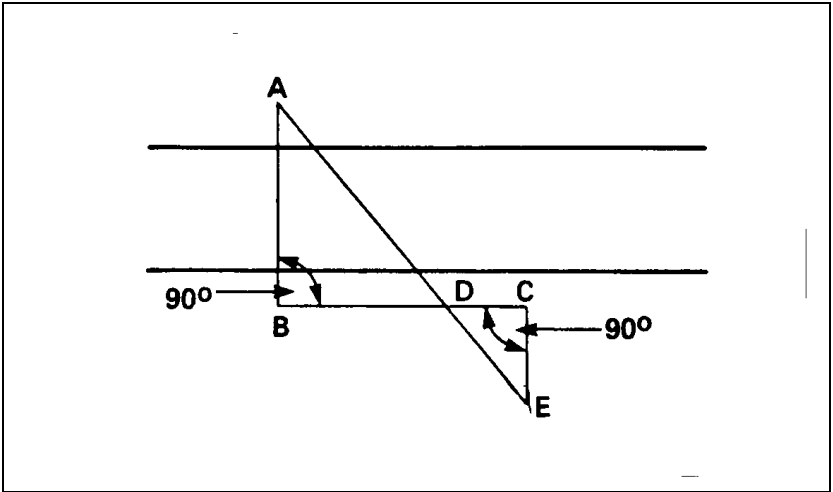

Fig 11-3-10 Measuring a Gap
14. **Method 1 - Using Proportional Right-Angled Triangles**, where AB is the distance to be measured (Fig 11-3-10):